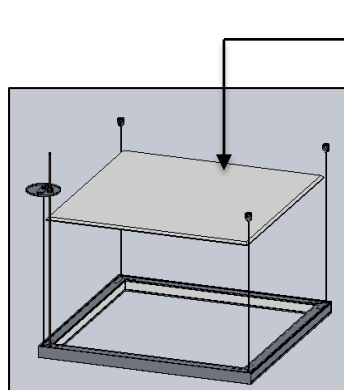

FIG. 36 - SE1-P1EM-STATICWHITE
22. If there is option for Acoustic Panel, place the Acoustic part above the fixture body such that it is eventually balanced and assembly concentrically to the axis of fixture body as shown in FIG. 36, 37 & 38 below.